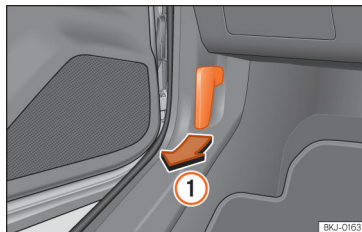

Fig. 168 Release lever in the driver's footwell area.
- Open the door and pull the lever that is underneath the instrument panel »» **Fig. 168** ①.